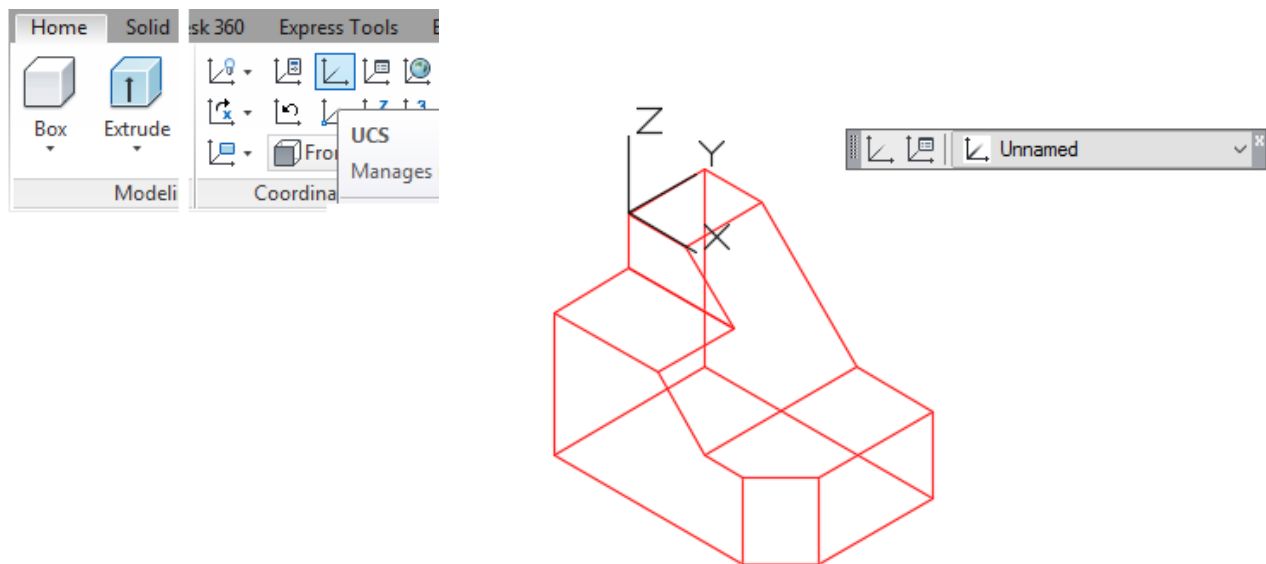

Figure Step 12
Step 12 Using the UCS command, move the UCS to corner as shown in the figure. Ensure that you snap to the end of the line. Note how the name of the UCS will display 'Unnamed'. (Figure Step 12)